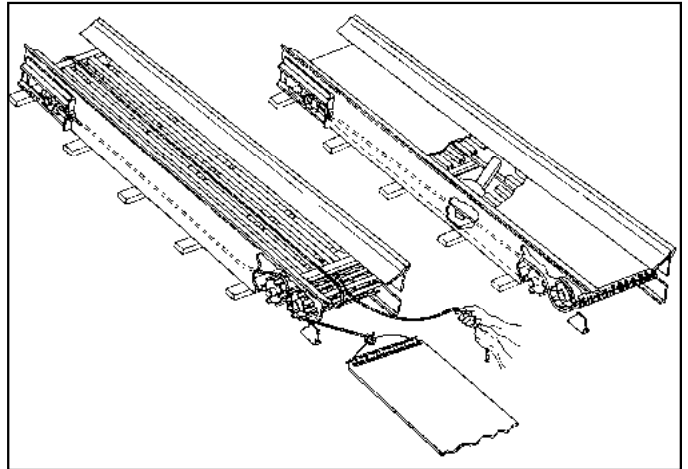

Figure 9– #5 Belt Installation
13. Shut off all power and insert lumber under belt to support its weight as shown in Figure 9.